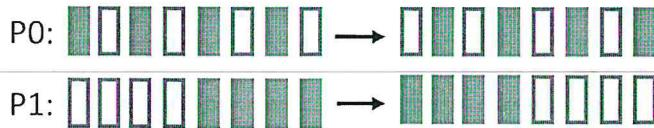

Figure 1: Blinking patterns.
A prototype for a light decoration is built on DE1-SoC board. The system can control 8 red LEDs on the board and uses 2 switches (SW1 and SW0) to select the blinking mode. Mode selection is given in Figure 1. Blinking mode sets the pattern (P) and speed. SW0 is used to select the pace: "1" and "0" mean fast and slow, respectively. Use the timer to manage the delay.
SW1 selects the blinking pattern. The patterns are given in Figure 1. Necessary devices are given below.